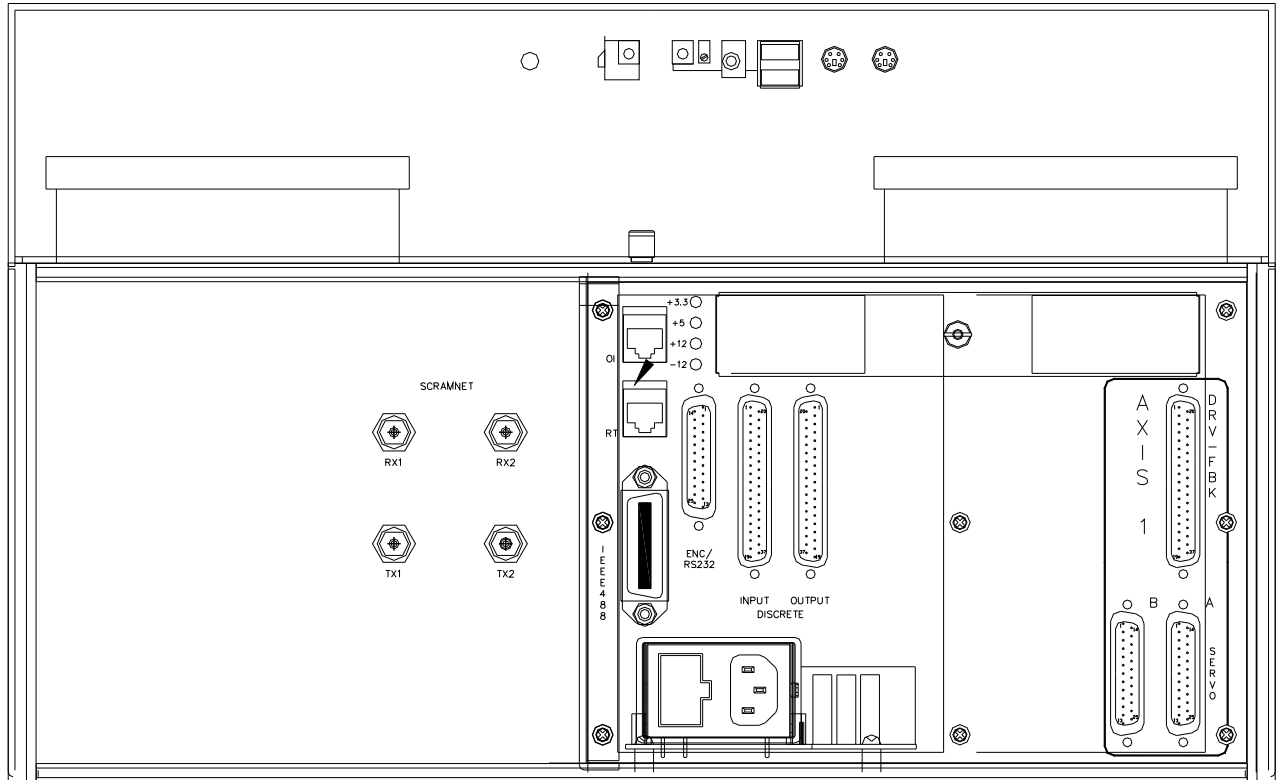

Figure 5-2 Acutrol3000 Rear Panel Showing SCRAMNet+ Interface
- **Rear Panel.** A modified rear panel is supplied for customer access to the fiber optic connections. The panel is mounted in place of the existing blank panel. See Figure 5-2.